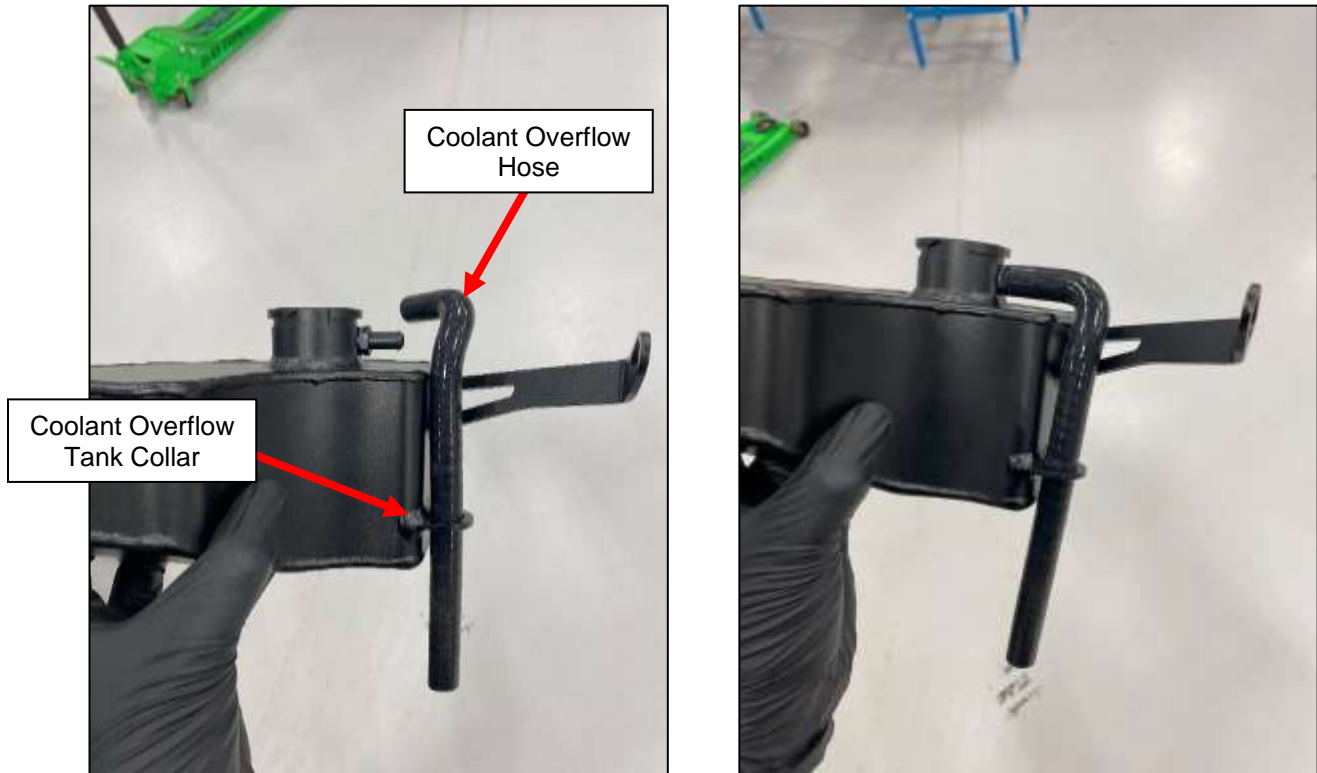

Figure 72
19. Locate the Coolant Overflow Hose (#50). Insert the Longer end of the hose through the collar built into the Coolant Reservoir Tank, then attach the shorter end to the Barb Fitting installed in *Step 18*. *Figure 72*.